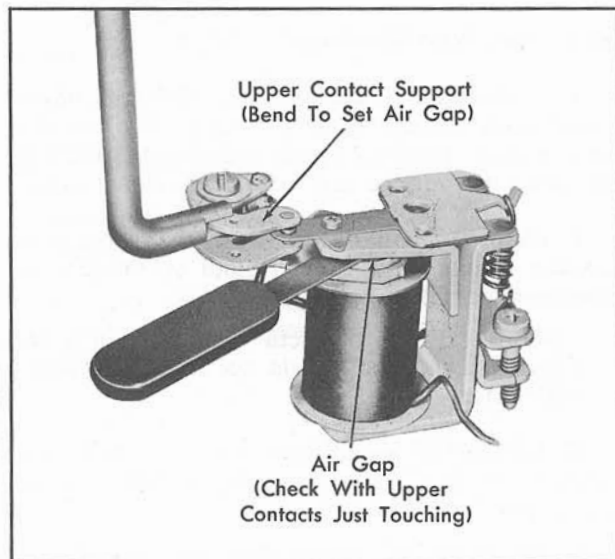

Fig. 12-10 Checking Voltage Regulator Air Gap
1. With upper contacts just touching, measure air gap between armature and winding core as shown in Fig. 12-10. Gap should be .080".